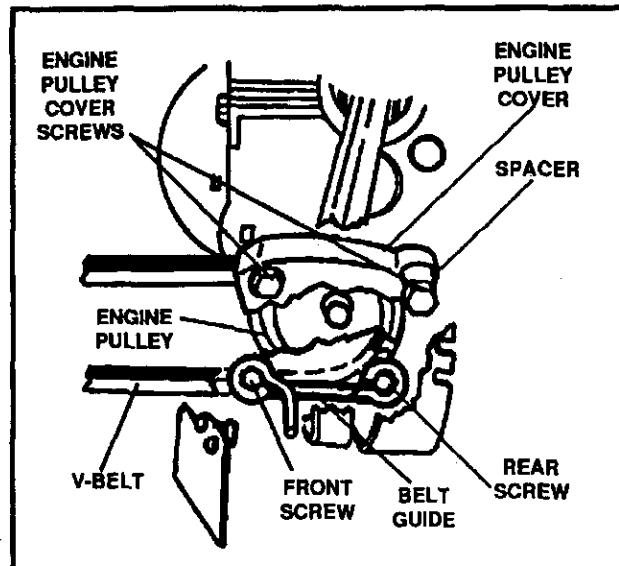

FIG. 12
- Remove the two top screws from the engine pulley cover (See Fig. 12) and remove the cover.
- Remove the front screw securing the belt guide (See Fig. 12) to the engine. Then loosen the rear screw and swing the belt guide away from the belt.